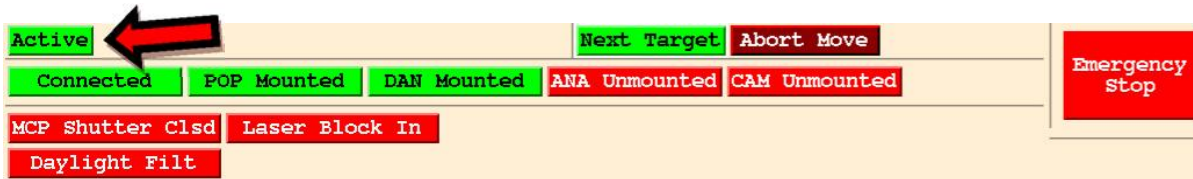

Figure 3-14: Ratgui Connected to Ratsnest and to the POP and DAM NFS shares
15. **Verify that Ratgui is actively controlling the system** – Verify that the button in the upper left hand corner of Ratgui shows that the system is active, not inactive. The top part of the interface now should look similar to Figure 3-14.